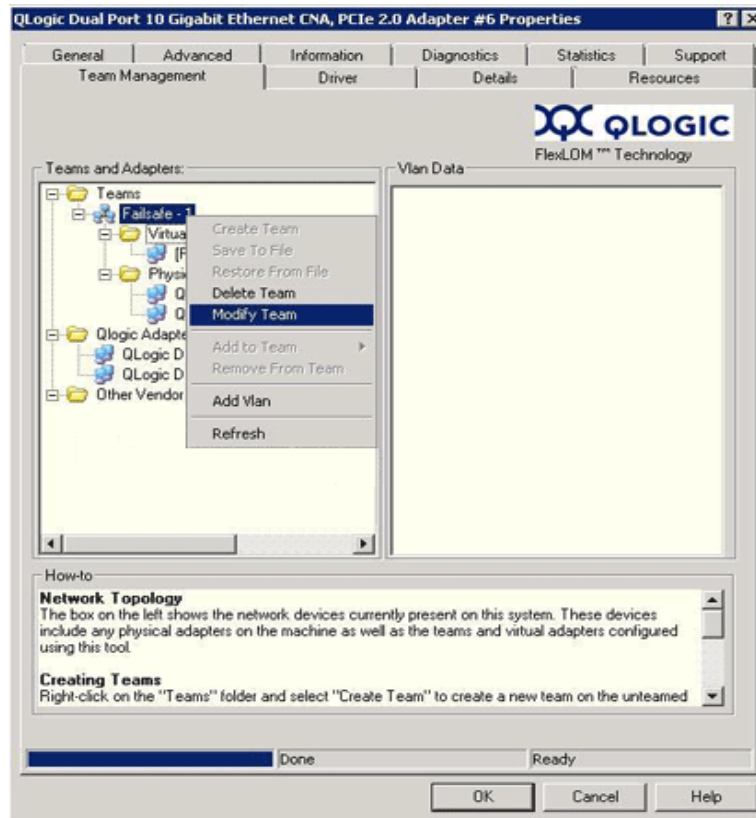

Figure 16: Modifying Team Properties
2. On the shortcut menu, click **Modify Team** (Figure 16).